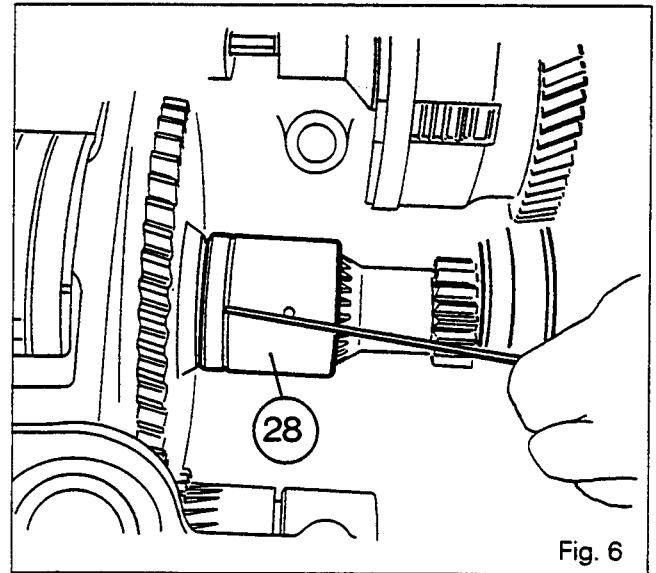

Fig. 6
**If carrying out work on the gears (31).**
39. Refit the gear (31).
40. Refit the circlip (30).
41. Reattach the fork, the sleeve assembly, the connecting shaft and the coupler. Position the slot of the sleeve (28) fitted on the driving gear as shown Fig. 6. Replace the pins. Adjust the fork (see 5 D01.A)
42. Refit the gear (31).
43. Refit the circlip (30).
44. Refit the assembly (connecting shaft and sleeves), then position the sleeves (27) and (28) on the shaft (29) (Fig. 6).
45. Mount the double pins (26) and (25) on the sleeves.
**Note: Position the grooved end of the sleeve (28) towards the rear of the tractor (Fig. 6). Replace the pins. The long pin is fitted into the sleeve (27).**